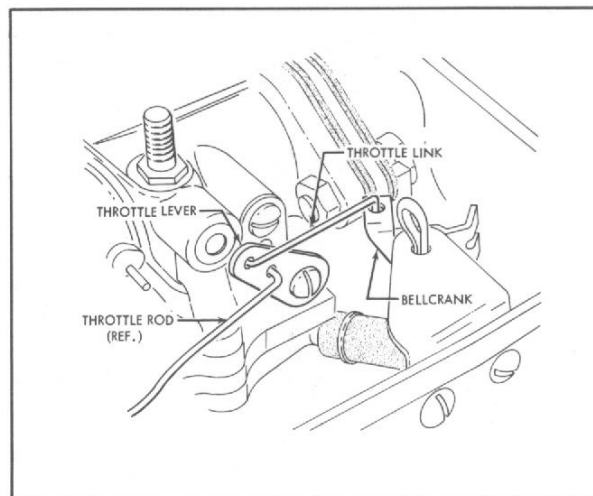

Figure 12. Installing Throttle Lever
13. Remove the carburetor throttle lever from the carburetor and install new Throttle Lever (P/N 51718). See Figure 12.